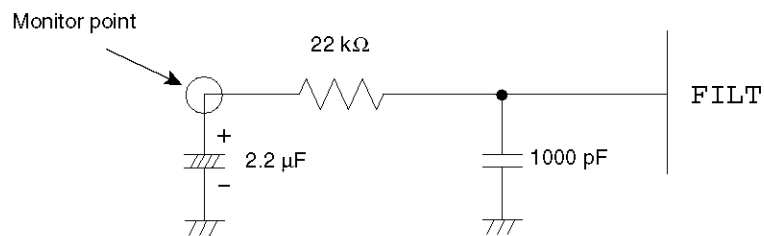

Figure 11 FILT Recommended Circuit
* See Figures 11 and 12.
- Adjust the voltage of monitor point in Figure 11 to $1/2V_{DD} \pm 10\%$ by the LC oscillation constant 'L' or 'C' to lock the PLL circuit.